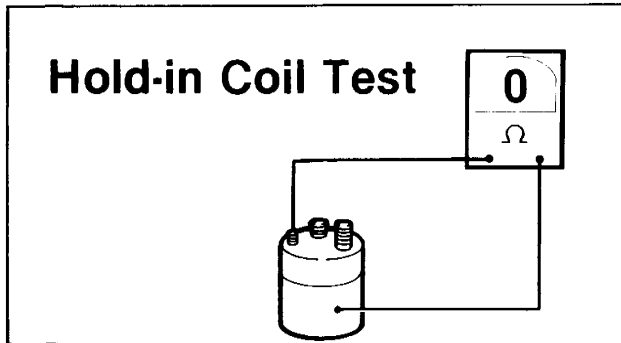

Figure 5-14. Hold-in Coil Test
- See Figure 5-14. Check the hold-in coil between the small terminal and the solenoid case, again there must be continuity, a reading of less than one ohm. Replace the solenoid if any other meter reading is obtained.